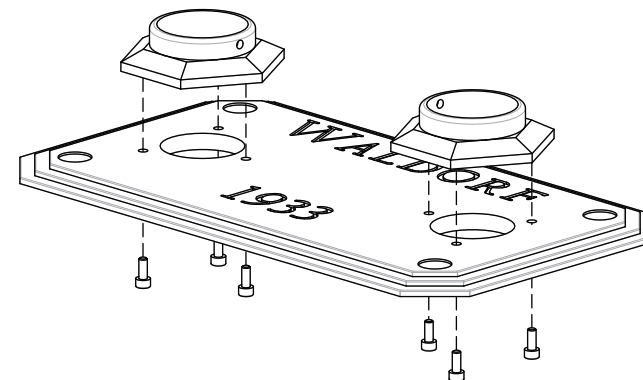

Fig. 3
- Before installing the plate on the floor, it is necessary to fix the escutcheons to the plate - Fig. 3;